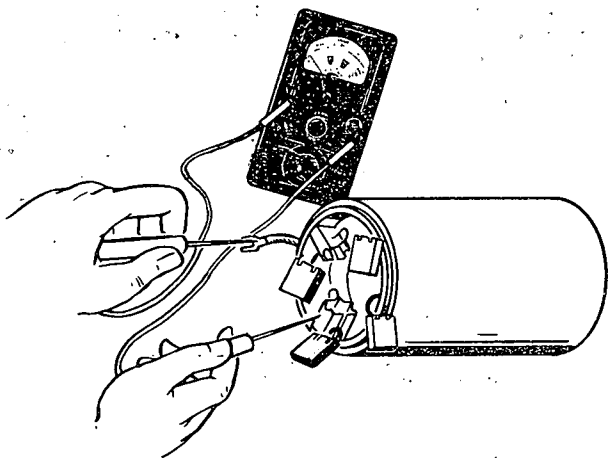

FIGURE 45. FIELD COIL OPEN CIRCUIT TEST
7. **Testing Field Coils for Open Circuit.** Place one lead on the connector and the other on a clean spot on the brushholder. If the ohmmeter reading is high, the field coil is open. Check the other three brushholders in the same manner (Figure 45).